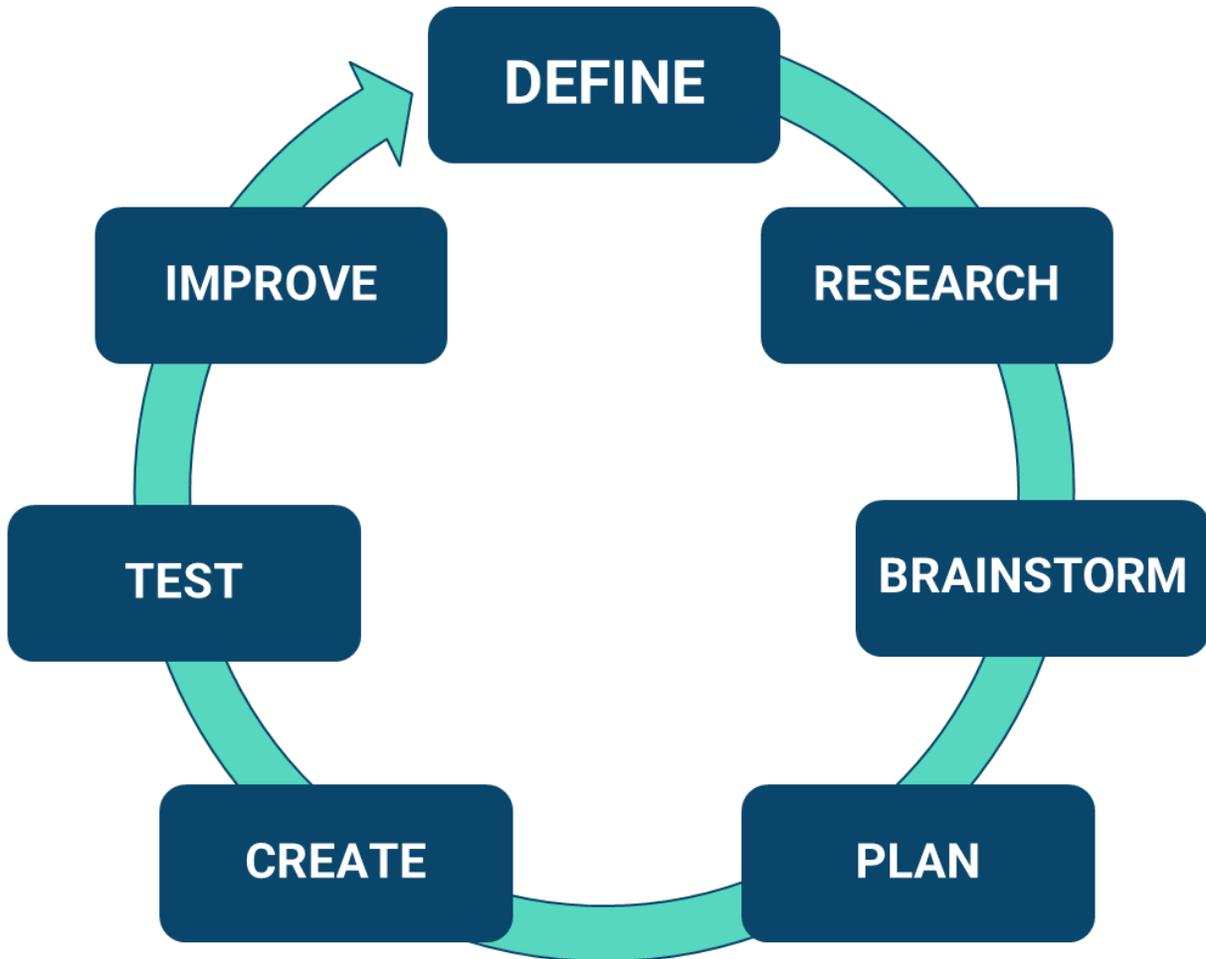

Figure 3 Engineering Process
- Figure 3: Our designs aren't perfect the first time – we use the engineering process to work towards the best solution.